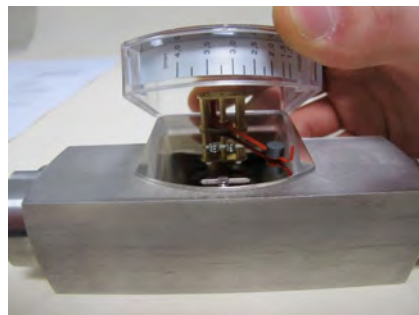

Fig. 38
2. ➤ Carefully remove the display cover plate along with the plastic housing from the base plate (Fig. 38). Make sure that the pointer mechanism is not damaged.